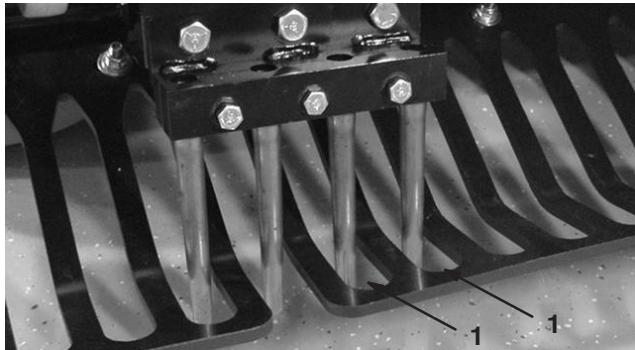

Figure 27
- Check that the tines line up with the center of the gaps in the turf guards (Fig. 27). Adjust turf guards as required and tighten the nuts.